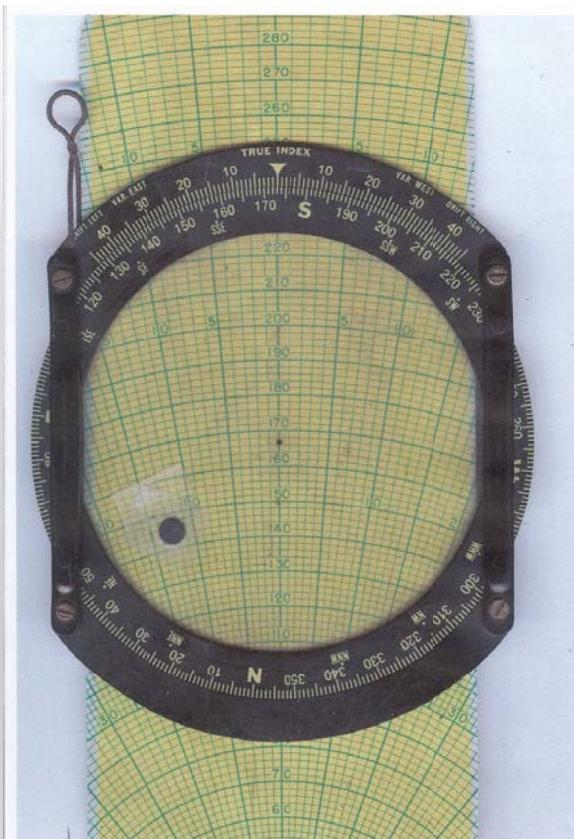

Fig 20: E-6B Wind Face
- c. Rotate the disc to align the TC (True Course) value of 173° with the true index, as indicated in Fig 20. This places the "dot" to the left & below the disc axis of rotation, indicating a moderate tailwind component.
- d. Move the "slider" to position the TAS (145) speed arc under the "dot" or "X".